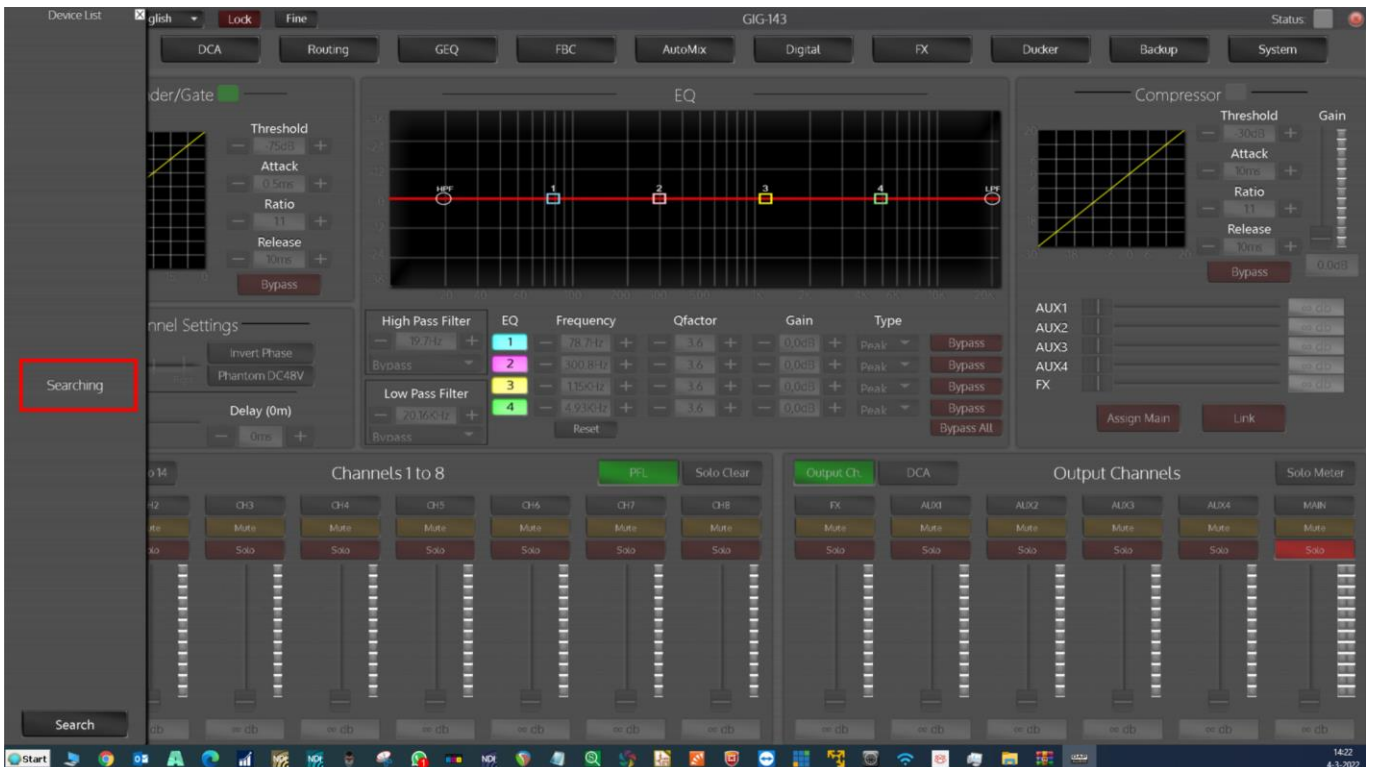

Fig. 09
- 04) The window will show Searching for 15 seconds (see Fig. 09).
- 06) Click on the name to select your device (see Fig. 09).